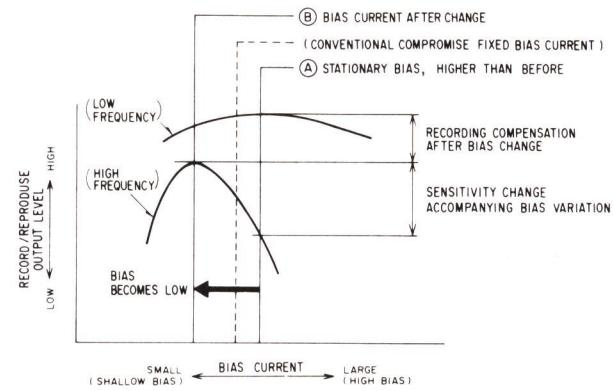
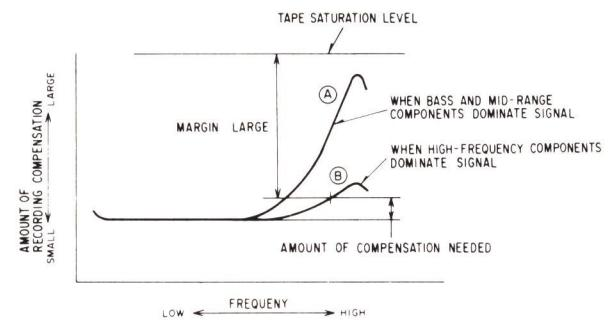

Fig. 3-36 Tape bias characteristic (2)
Fig. 3-37 Recording equalization characteristic (2)
- When bass and mid-range components dominate in the input signal or the overall level of the input signal is low, a fixed high bias is applied. (See Ⓐ in Fig. 3-36.) In this case, frequency response at low frequencies can be improved by selecting a bias more suitable for lower frequency content than the conventional fixed bias.
- When the input signal involves high-level, high-frequency components, bias is decreased instantly depending on the frequency components and level, increasing the sensitivity at high frequencies. (See Ⓑ in Fig. 3-36.)
- When bass and mid-range components dominate the input signal and bias is selected as Ⓐ in Fig. 3-36, tape sensitivity is low at high frequencies and, therefore, the recording equalization is that of curve Ⓐ shown in Fig. 3-37. With curve Ⓐ, the amount of boost at high frequencies is very large but the level of high-frequency components of the input signal is low. Therefore, distortion will not occur during recording.
- With high-level, high-frequency signals, bias is lowered. (See Ⓑ in Fig. 3-36.) With lower bias, tape sensitivity increases at high frequencies and the amount of recording equalization may be reduced, as shown by curve Ⓑ in Fig. 3-37.
- c. Since the variable equalizer is basically a low-pass filter, reduction in turnover frequency results in increased attenuation at high frequencies. Because of this, the recording signal passing through the variable equalizer varies as curves A and B shown in Fig. 3-37.